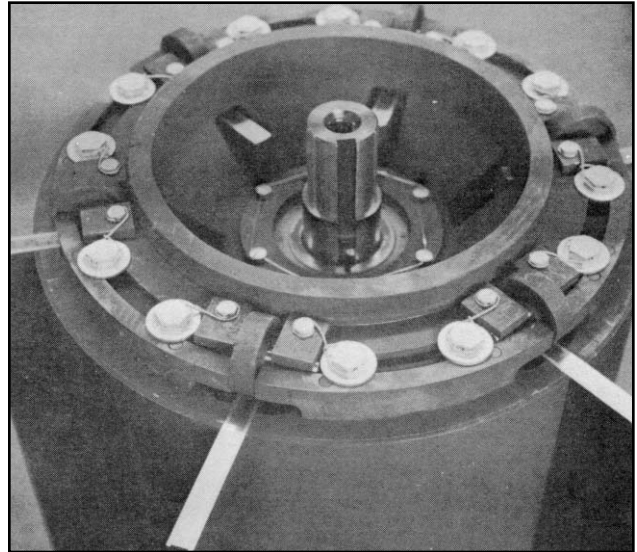

Figure 26
1. Figure 26 is a view of the bottom of the rotor assembly.